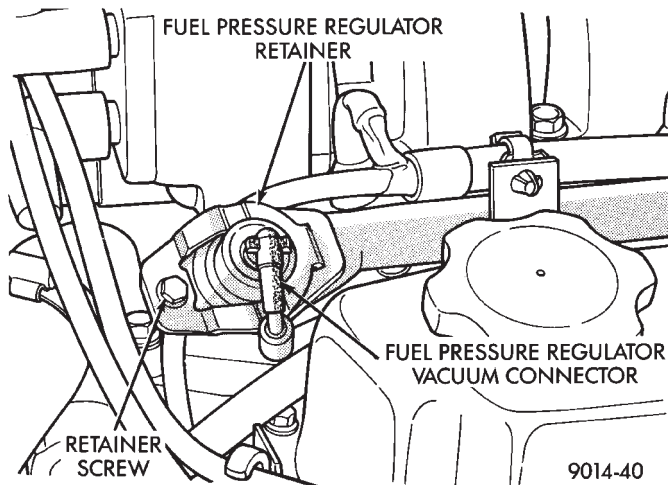
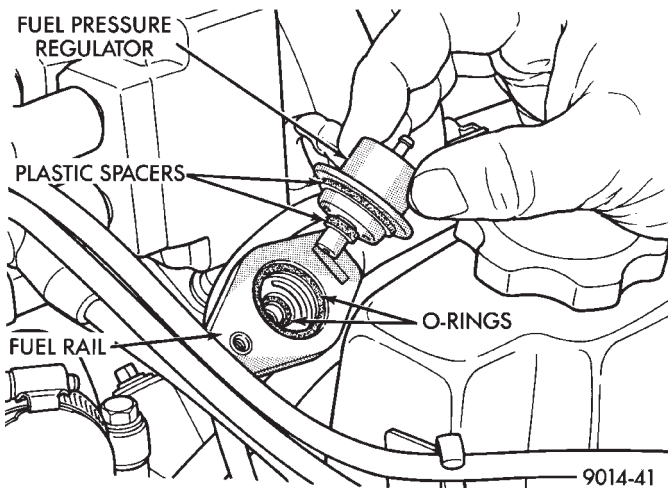
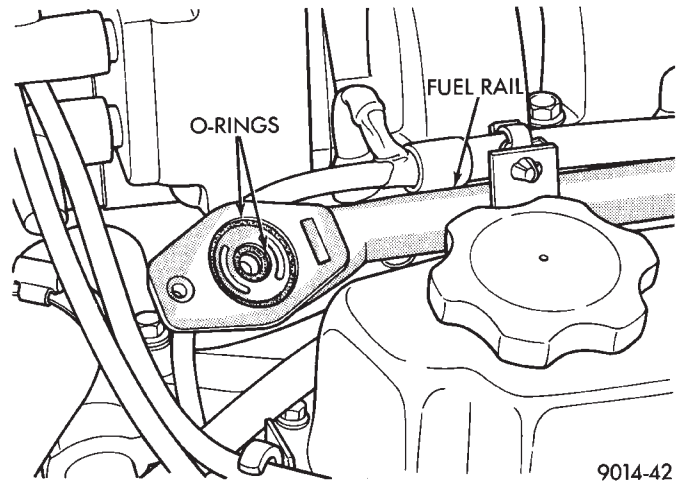

Fig. 15 Fuel Pressure Regulator
Fig. 16 Fuel Pressure Regulator Removal/Installation
Fig. 17 Fuel Pressure Regulator O-Rings
(1) Perform fuel system pressure release procedure before attempting any repairs. Refer to Fuel Pressure Regulator Procedure in this section.
(2) Remove fuel pressure regulator vacuum connector. (Fig. 15).
(3) Remove regulator retainer screw (Fig. 15).
(4) Remove the fuel pressure regulator retainer (Fig. 15).
(5) Remove fuel pressure regulator and O-rings (Fig. 16).
- (1) Ensure fuel pressure regulator has two plastic spacers (Fig. 16). Place O-rings in the fuel pressure regulator cavity (Fig. 17). Do not install O-rings on the fuel pressure regulator.
- (2) Insert fuel pressure regulator into the fuel rail.
- (3) Install fuel pressure regulator retainer (Fig. 15).
- (4) Install retainer screw. Tighten to 7 N•m (60 in. lbs.) torque.
- (5) Connect vacuum line to the fuel pressure regulator.